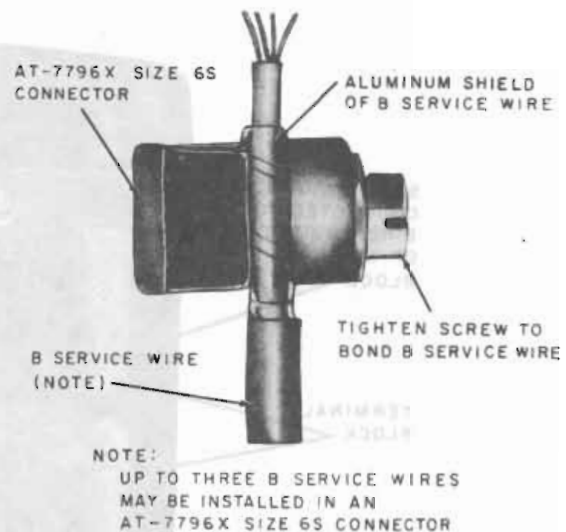
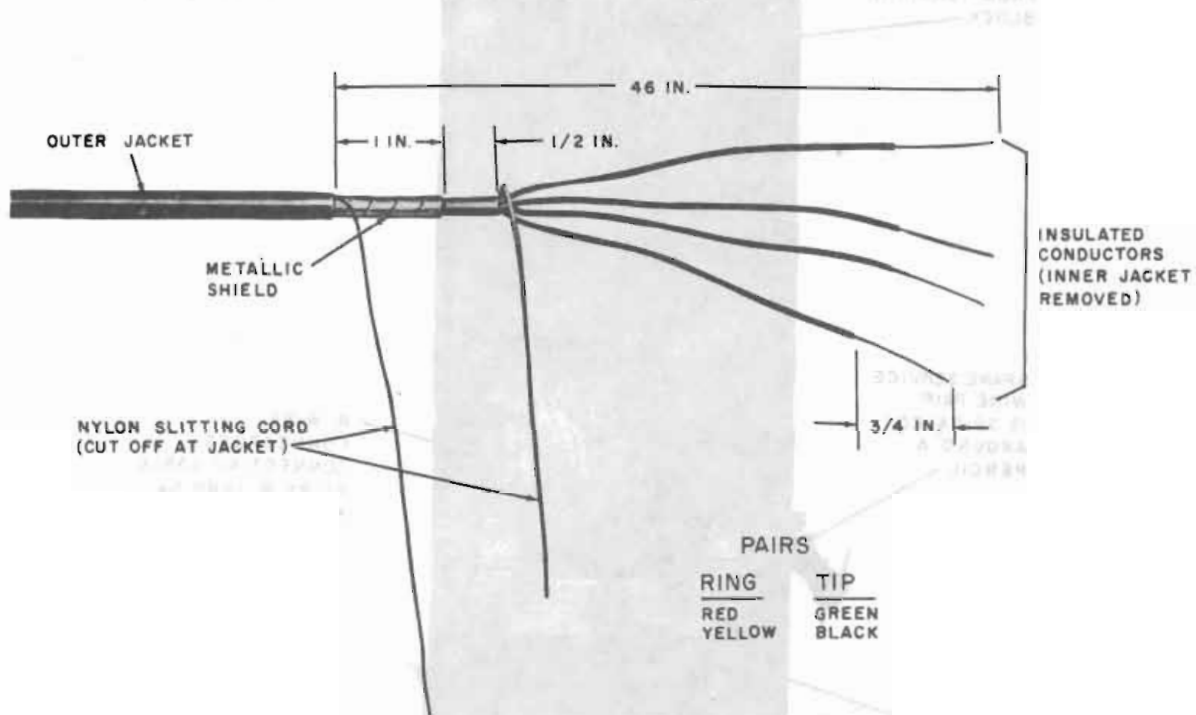

Fig. 10—Service Wire in AT-7796X Connector
Fig. 9—Prepared Service Wire PC6/48 Closure
8.01 Prepare the service wire as shown in Fig. 9 and install the metallic tape in the AT-7796X connector as illustrated in Fig. 10.
9.02 Install the metallic tape of the service wire in the AT-7796X connector as illustrated in Fig. 10. Tighten the screw.
(a) Remove the outerjacket from the service wire and install the metallic tape in the AT-7796X connector as illustrated in Fig. 10.
10.01 When joining service wire directly to the cable pair prepare the service wire and install the metallic tape in the AT-7796X connector as illustrated in Fig. 10.
(a) Remove the outer jacket from the service wire and install the metallic tape in the AT-7796X connector as illustrated in Fig. 10.
11.02 Install the metallic tape of the service wire in the AT-7796X connector as illustrated in Fig. 10.
- (a) Mark and remove the outer jacket from the service wire as illustrated in Fig. 20 and 21, respectively. Install the metallic tape of the service wire in the AT-7796X connector as illustrated in Fig. 10.